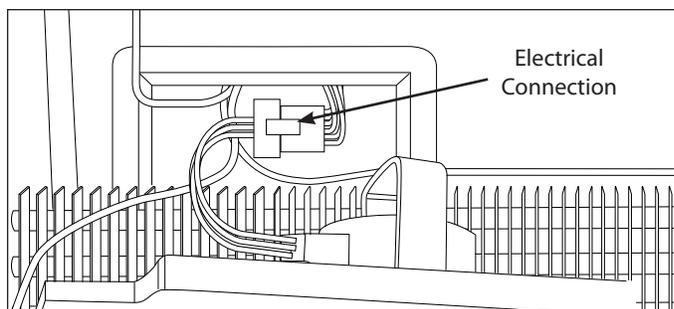

Figure 6-48.
7. Disconnect wire harness connector. Evaporator fan motor assembly can now be removed from the freezer. (See Figure 6-48)